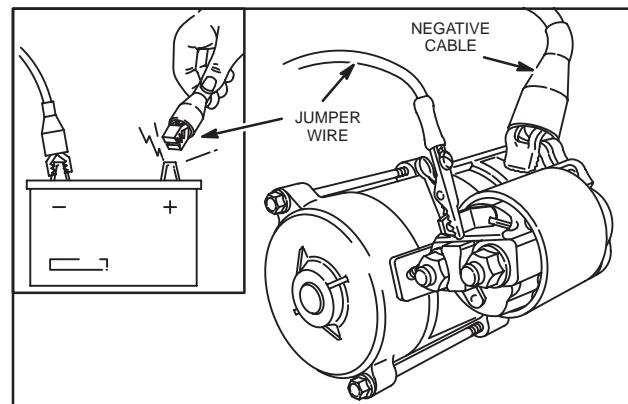

Fig. 49 – Testing Solenoid
1. Attach one end of battery cable to negative battery terminal and other end of cable to a good ground such as drive housing. Fig. 49.